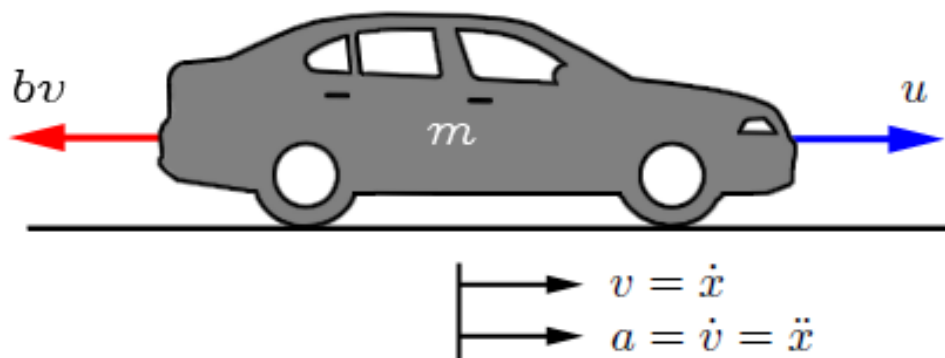

Figure 1: Free Body Diagram for a Vehicle
1. Model the Car cruise system shown in Figure 1 and Equation (1) using MATLAB & SimuLink. The parameters for the system are as follows: